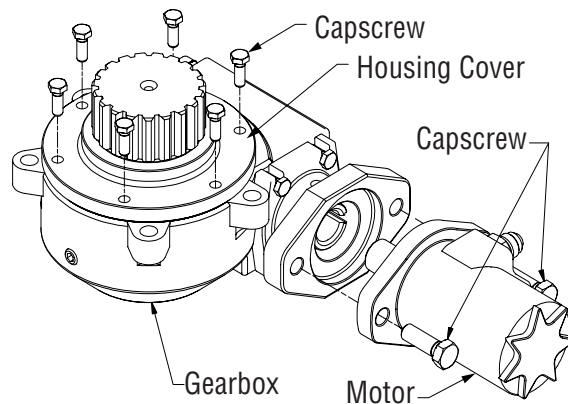

Figure 5-35, Motor/Housing Cover Removal
3. Place the gearbox on a flat surface and remove the motor mounting capscrews. (Figure 5-35)
4. Remove the capscrews from the housing cover. The housing cover capscrews are installed with Loctite, so use a long handle wrench to break them loose. Using a large screwdriver and hammer, separate the housing cover from the housing. (Figure 5-35)